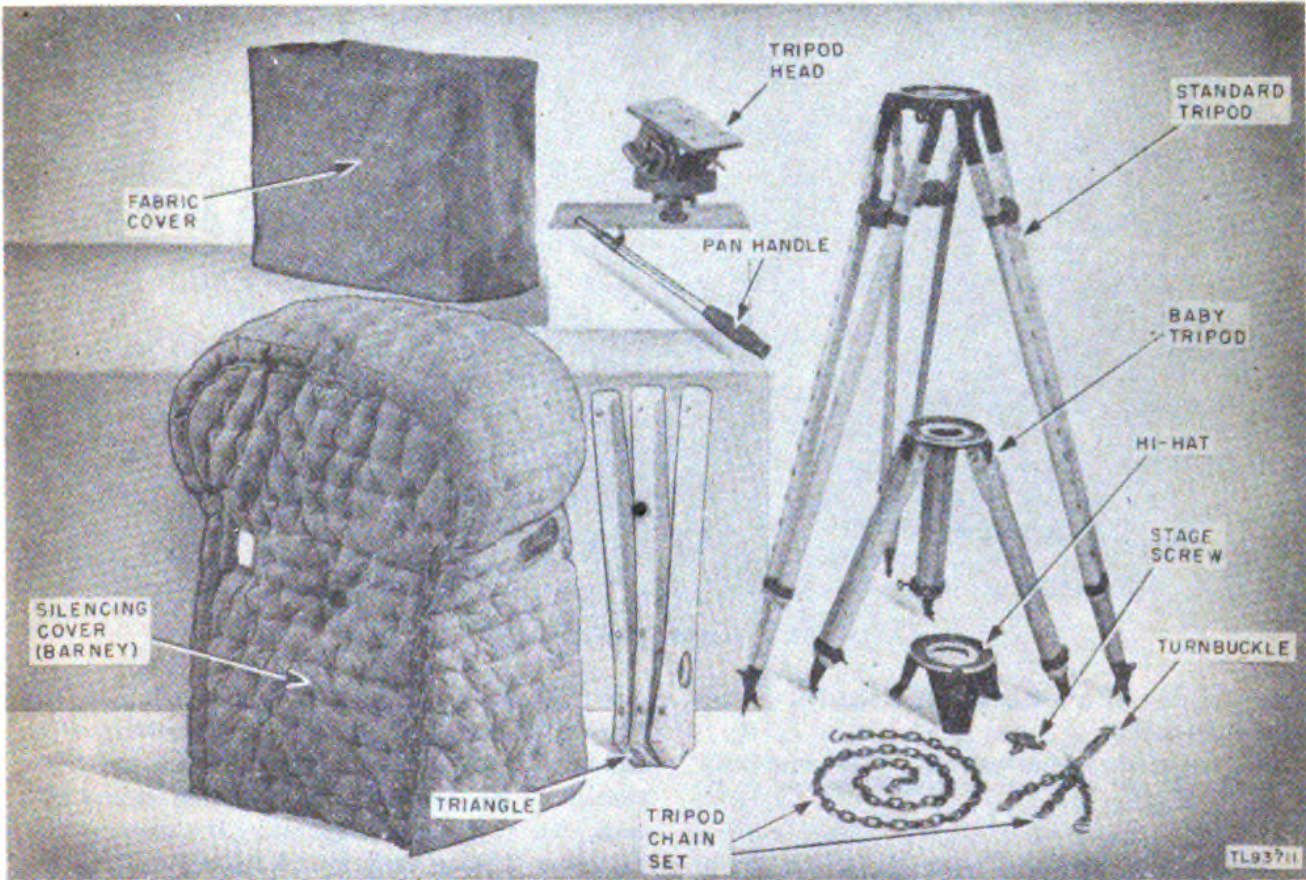

Figure 4. Components of Camera PH-274.
17. Tripods (fig. 4)
18. Camera Covers (fig. 4)